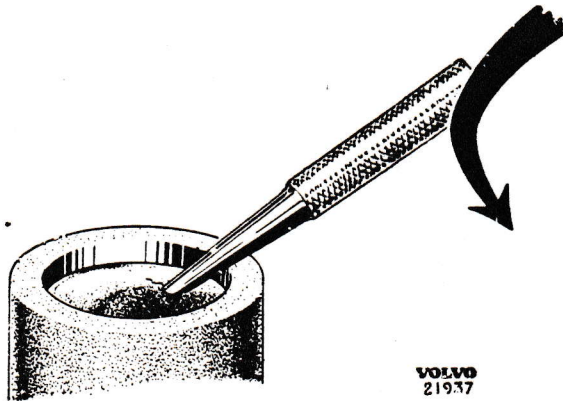
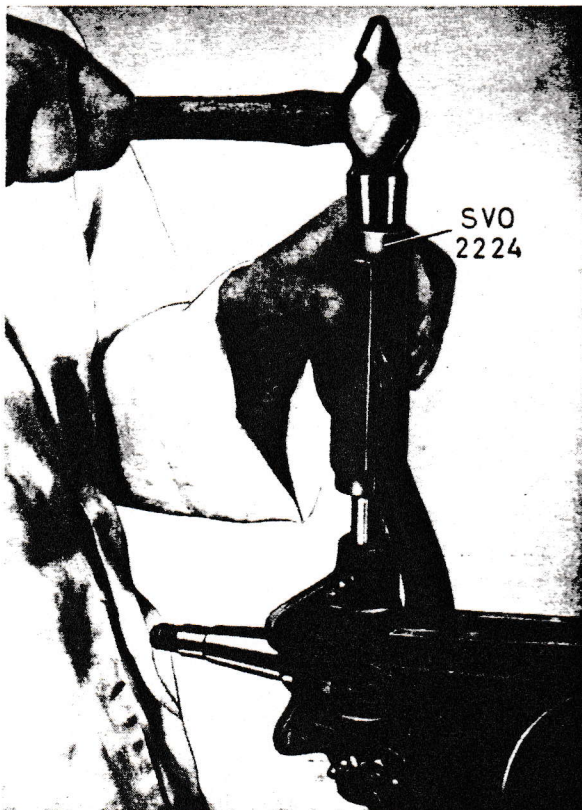

Fig. 16. Removing the sealing washer
Fig. 17. Removing king pin
8. Drive out the stop key with a drift. Remove the sealing washer with a pointed punch as shown in Fig. 16. Drive out the king pin downwards with tool SVO 2224 as shown in Fig. 17. Place in the extensions as required. If the king pin fits very tightly it should first be knocked up a little with the help of a straight, thick drift.